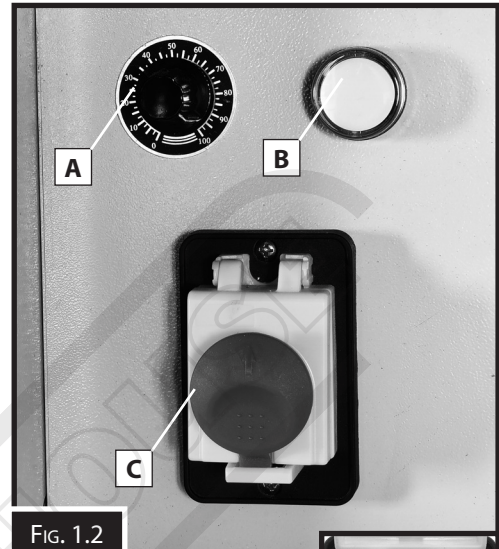

FIG. 1.2
A. Speed Control: When adjusted increases or decreases the number of blows per minute of the Hammer. (Fig. 1.2)
B. Power Lamp: This lamp is illuminated when the motor is switch ON. (Fig. 1.2)
C. ON/OFF Power Switch Cover: When the cover is lifted then access is available to the ON/OFF buttons. When the red knob on the cover is pressed the motor will stop and the cover will be latched. (Fig. 1.2)
D. ON Button: When pressed switches the motor ON (Fig. 1.2)
E. OFF Button: When pressed switches the motor OFF (Fig. 1.2)